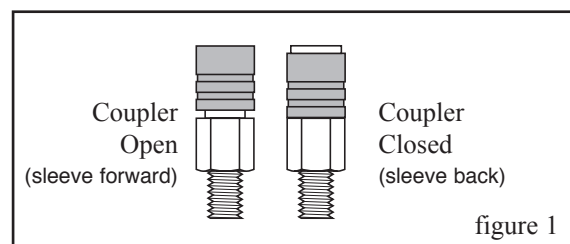

figure 1
**Caution:** Couplers must be in the open position before connecting with pull studs. See figure 1. Coupler damage will result from improper set-up.
4. Connect shop air lines to the pneumatic fittings that feed the FasTie couplers. **Couplers must be in the open position (see figure 1) before connection to pull studs, otherwise coupler damage will occur.**
5. Connect shop air lines to the pneumatic fitting for the coupler. **Coupler must be in the open position (see figure 1) before connection to the pull stud, otherwise coupler damage will occur.**